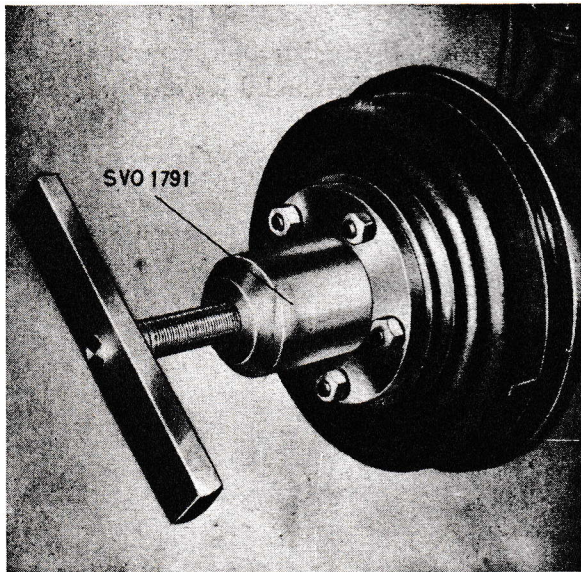

Fig. 1. Removing a wheel hub.
1. Remove the wheel and pull off the wheel hub, Fig. 1. Use puller SVO 1791. Remove the brake backing plate after having placed a wooden block under the brake pedal and loosened the brake line from the backing plate.
1. Remove the wheel and pull off the hub, Fig. 1. Use puller SVO 1791. Remove the brake backing plate after having placed a wooden block under the brake pedal and disconnected the brake line from the backing plate.
1. Place the rear axle in a fixture or on a couple of supports of a suitable height. Remove the rear wheel hubs with puller SVO 1791, see Fig. 1.